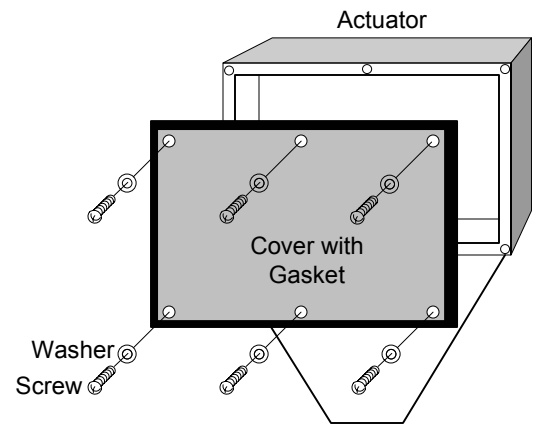

Fig 1.
1. Remove 6 screws and washers and take the cover off the actuator unit. (Fig. 1)